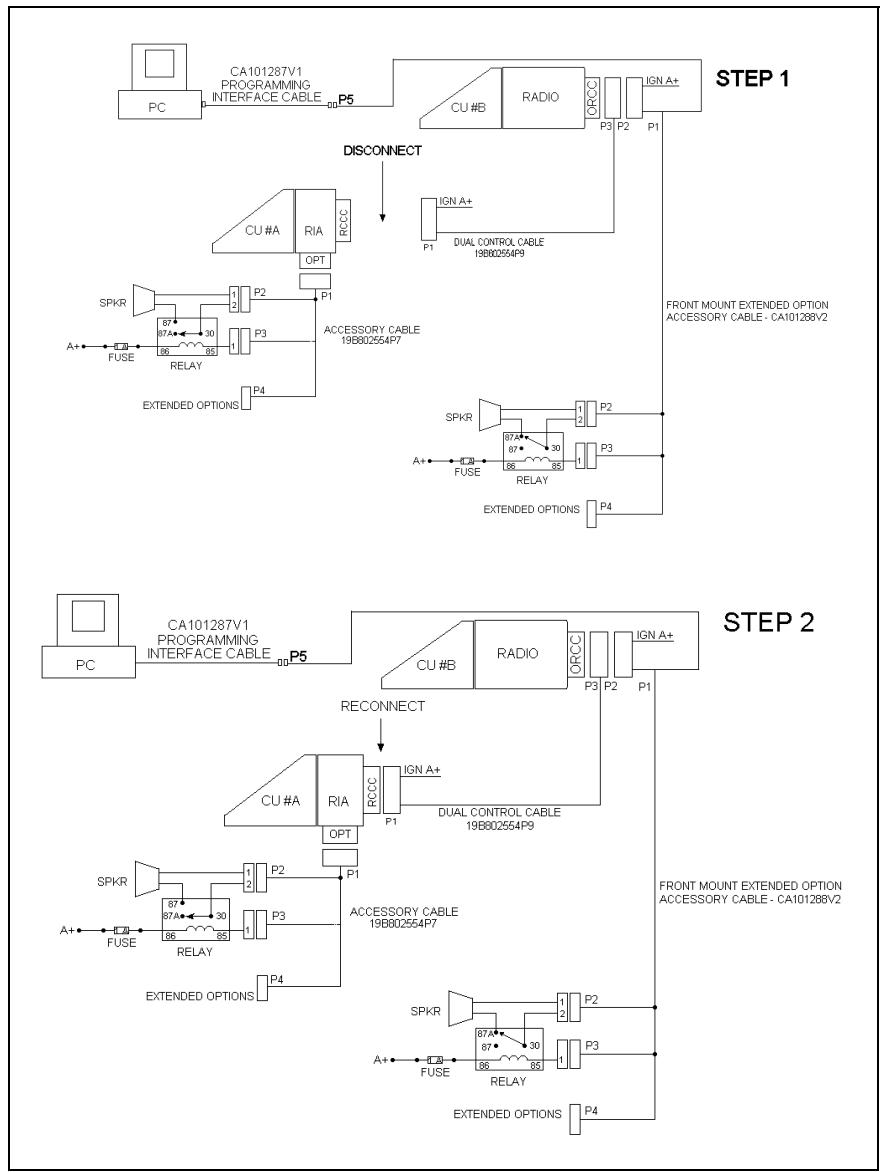

Figure 10-8: M7100^{IP} Field Programming – Dual Control Unit Front/Remote Mount Configuration
Refer to Figure 10-8 for the Parallel Audio Setup Installation. Perform the following steps to install parallel audio speakers:
1. Connect the M7100^{IP} Front Mount Radio and the Auxiliary Control Unit per the ProGrammer setup as shown in Figure 10-8, Step 1 with Control Unit A disconnected. Program the radio with the control configurations shown in Step 1 of “Pre-Installation Programming Procedure with ProGrammer – Front Mount” and adjust as necessary for the specific application.
2. Connect the Front Mount Radio and Auxiliary Control Unit per ProGrammer setup as shown in Figure 10-8, Step 2 with Control Unit A reconnected. Program the configurations shown in Step 2 of “Pre-Installation Programming Procedure with ProGrammer – Front Mount” and adjust as necessary for the specific application.